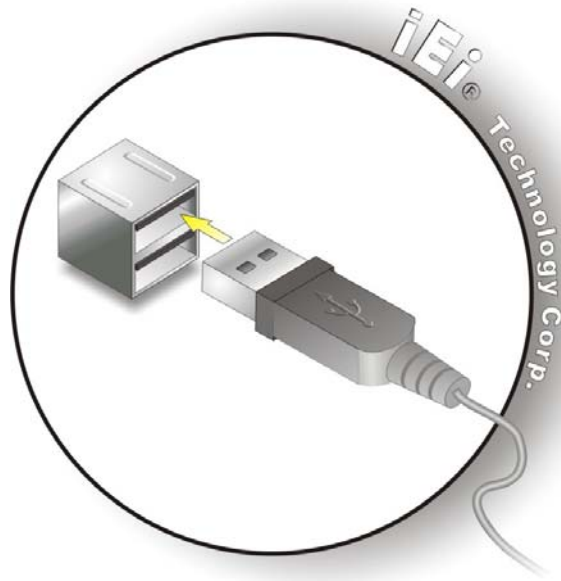

Figure 4-22: USB Device Connection
Step 2: Align the connectors. Align the USB device connector with one of the connectors on the IMB-Q354. See **Figure 4-22**.